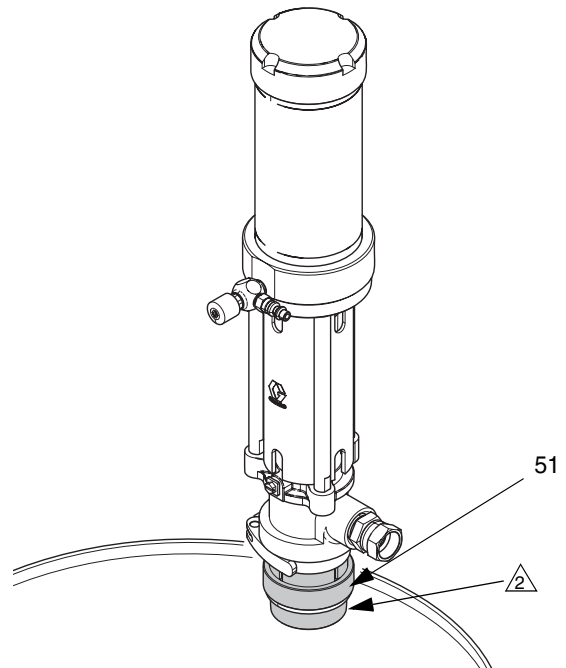

FIG. 7
4. Lubricate the bung adapter inside diameter and mounting threads. Ensure the gasket is in place and screw the bung adapter (51) securely into the bung-hole of the drum. Insert the pump through the adapter and lock it in place. See FIG. 7.